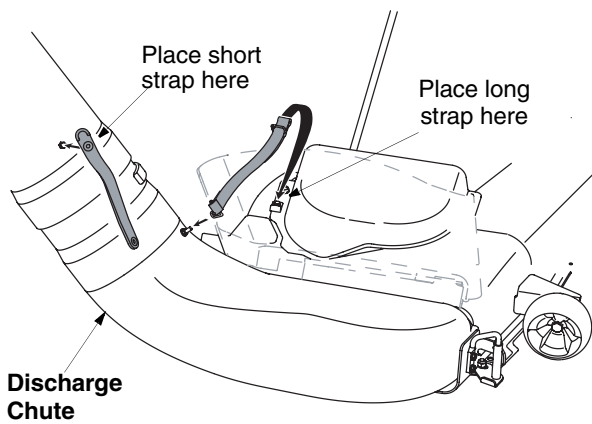

Figure 9
- Attach the longer of the three retainer straps on the discharge chute to the retainer clip on the deck. Refer to Figure 9.
- Insert the lower end of the chute tube over the discharge chute so that its two notches fit into the two corresponding notches on the discharge chute. See Figure 9.
- Secure by placing the ends of the two short retainer straps on the discharge chute over the pins on the chute tube. See Figure 9.